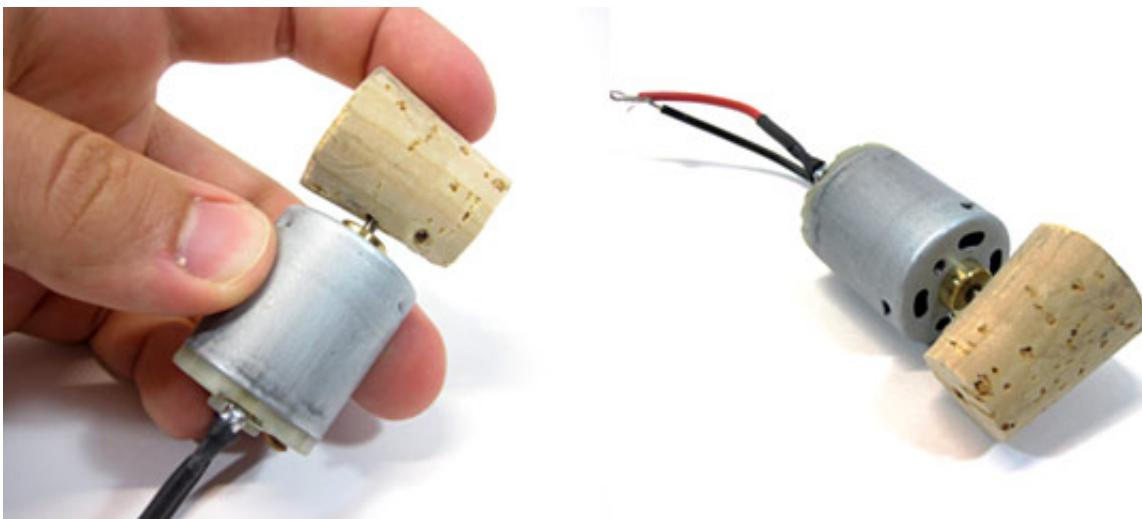

Figure 4. Press the cork onto the motor's shaft.
3. Press the cork onto the motor's shaft, as shown in Figure 4, below.